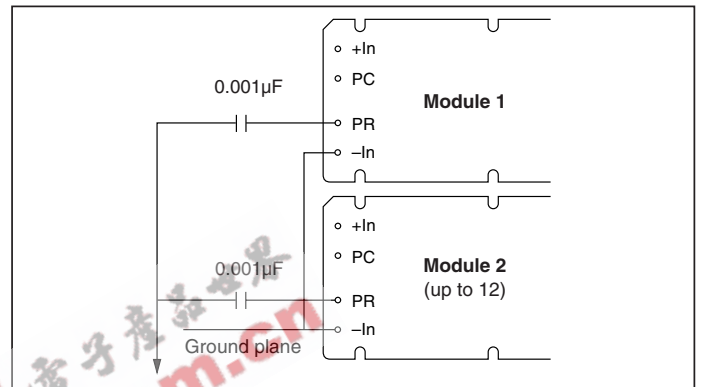

Figure 10—AC coupled single-wire interface.
*AC coupled single-wire interface.* All PR pins are connected to a single communication bus through 0.001 $\mu$ F (500V) capacitors. This interface supports current sharing and is fault tolerant except for the communication bus. See Figure 10.